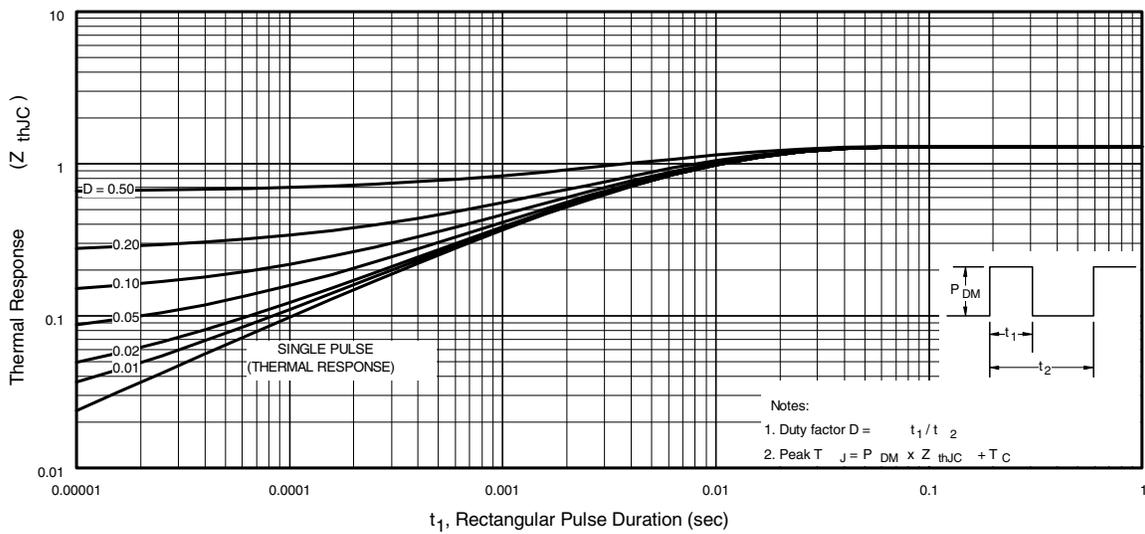
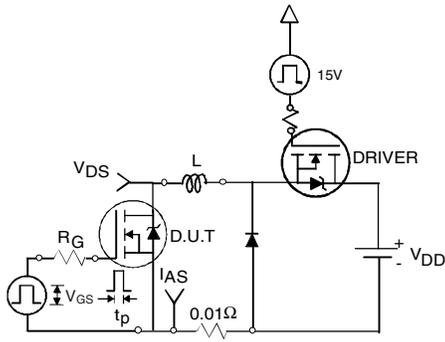

Fig 11. Maximum Effective Transient Thermal Impedance, Junction-to-Case
Fig 12a. Unclamped Inductive Test Circuit
3. Equation below based on circuit and waveforms shown in Figures 12a, 12b.
$Z_{thJC}(D, t_{av})$ = Transient thermal resistance, see figure 11)
- ① Repetitive rating; pulse width limited by max. junction temperature. (See fig. 11).
- ② Limited by T_{Jmax} , starting $T_J = 25^\circ\text{C}$, $L = 0.45\text{mH}$, $R_G = 25\Omega$, $I_{AS} = 30\text{A}$, $V_{GS} = 10\text{V}$. Part not recommended for use above this value.
- ③ $I_{SD} \leq 30\text{A}$, $di/dt \leq 280\text{A}/\mu\text{s}$, $V_{DD} \leq V_{(BR)DSS}$, $T_J \leq 175^\circ\text{C}$.
- ④ Pulse width $\leq 1.0\text{ms}$; duty cycle $\leq 2\%$.
- ⑤ C_{OSS} eff. is a fixed capacitance that gives the same charging time as C_{OSS} while V_{DS} is rising from 0 to 80% V_{DSS} .
- ⑥ Limited by T_{Jmax} , see Fig.12a, 12b, 15, 16 for typical repetitive avalanche performance.
- ⑦ This value determined from sample failure population. 100% tested to this value in production.
- ⑧ When mounted on 1" square PCB (FR-4 or G-10 Material). For recommended footprint and soldering techniques refer to application note #AN-994.